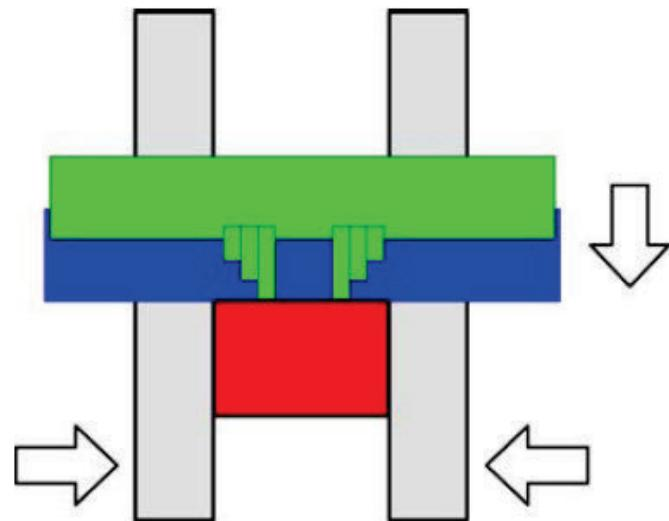

Figure 5 Lift starts descending.
4. After the wrap plates reach the position to hold the tray, the lift starts descending (Figure 5).
5. After the lift starts descending, the left and right wrap plates and rear wrap plate squeeze in (Figure 5)